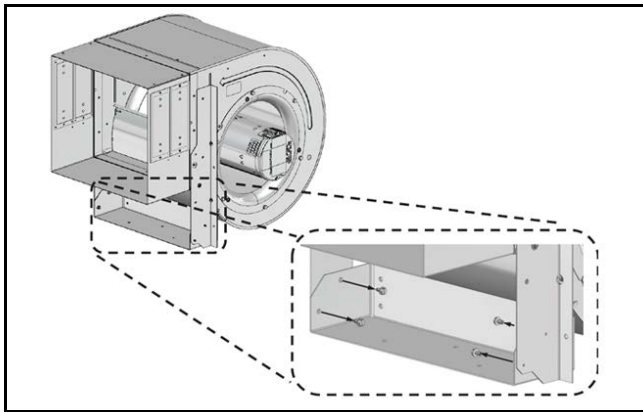

Fig. 26
3. Remove and retain the four screws under the blower collar. (See Fig. 26.)